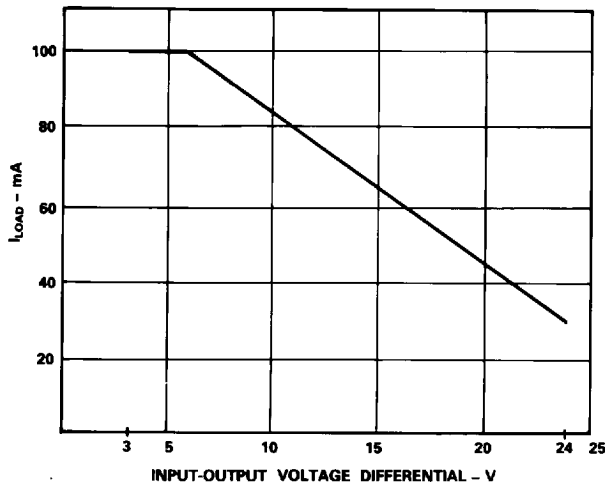
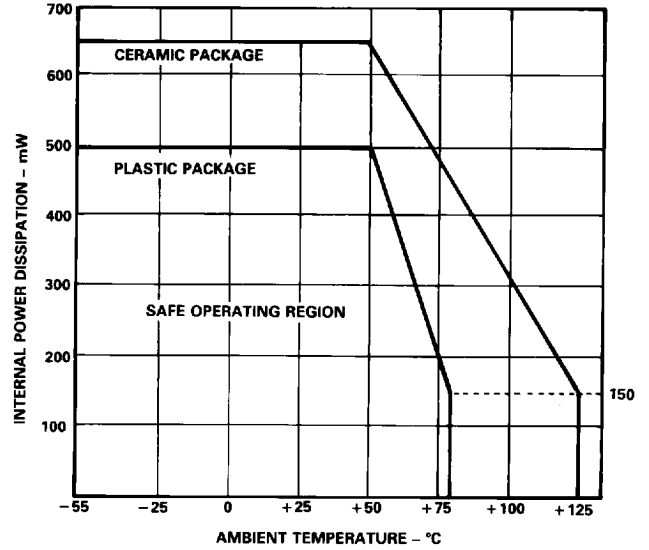

Figure 13. Excitation Source Input - Output Voltage Differential vs. Load Current; Ambient Temperature  $\leq 25^{\circ}$ C.
Figure 14. Excitation Source Internal Power Dissipation vs. Temperature
- 5Derate from +50°C as shown in Figure 14.
**Bridge Excitation:** The adjustable bridge excitation is specified over a wide regulator input voltage range (+9.5V to +28V). Maximum load current  $I_L$  as a function of regulator input-output differential voltage is shown in Figure 13. The maximum output current also depends on ambient temperature and above 50 $^{\circ}$ C a derating factor should be derived from Figure 14.